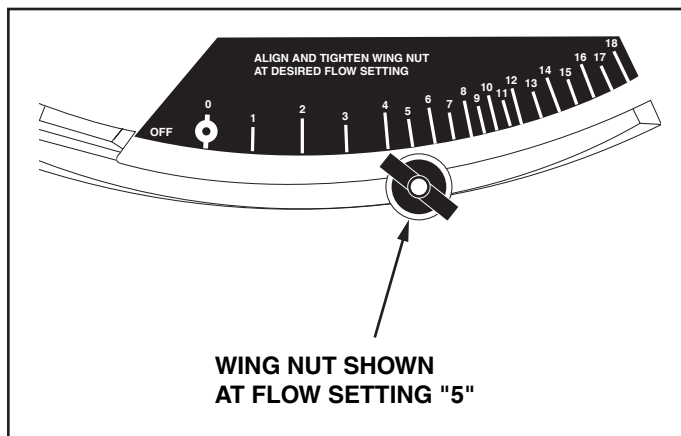

FIGURE 26
4. Loosen the plastic wing nut and move it to the desired setting. Retighten the nut. See figure 26.